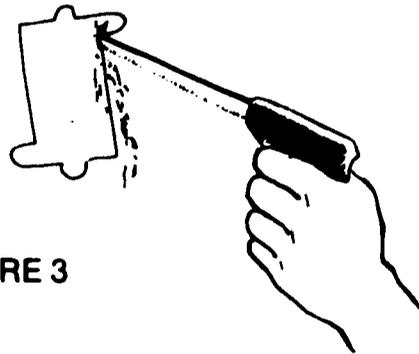

FIGURE 3
- F. Saw along drawn lines (Figure 3)